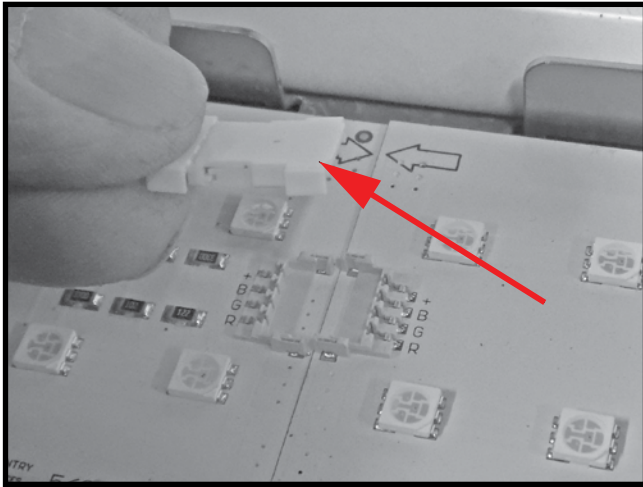

Figure 63: LED strip bridge connector.
5. Remove the bridge connector of the LED section(s) to be replaced (Figure 63). These connector tabs lift up much like the main electrical connector. In this way, individual LED sections can be replaced without removing the entire row of LED sections from the fire feature.
8. Reconnect the individual LED sections using a bridge connector as shown in Figure 63.